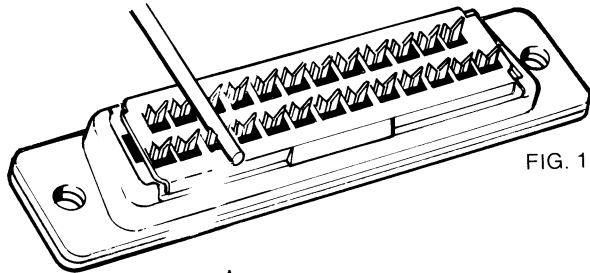

FIG. 1
1. Position conductor over "U" contact. (Figure 1.)